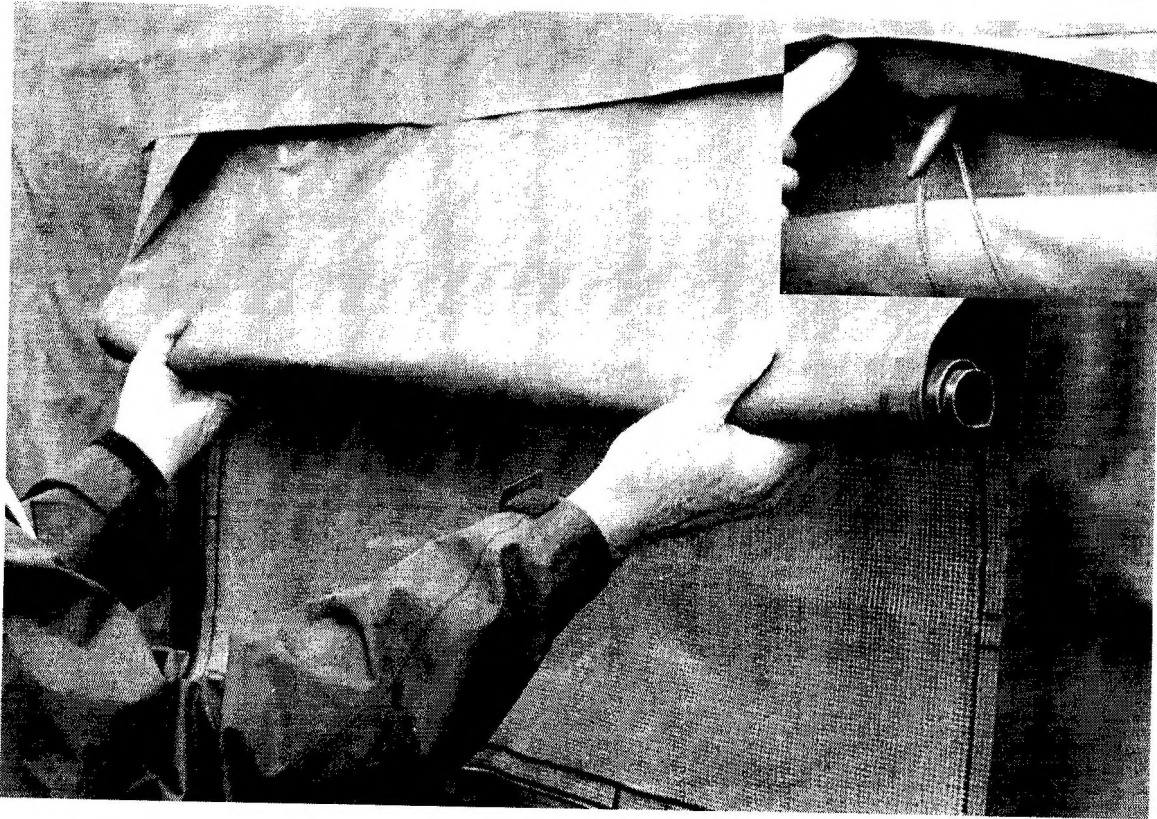
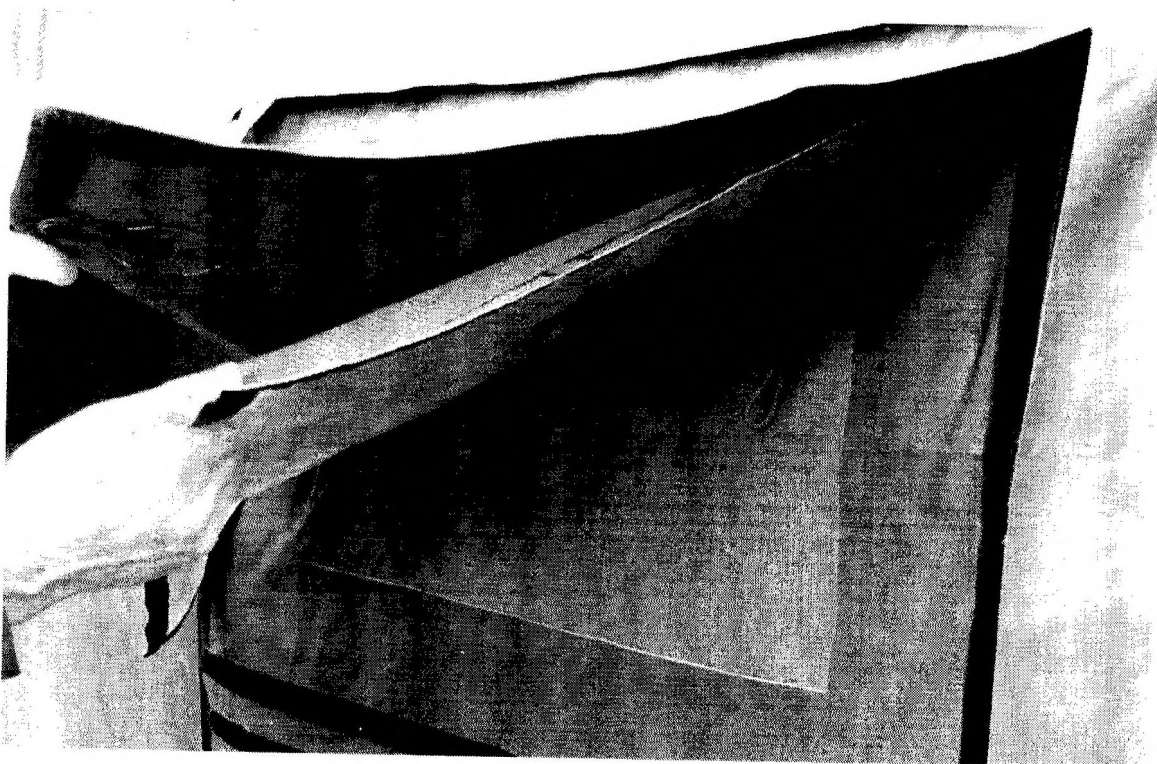

Figure 56: Window adjustment
Figure 57: Window adjustment for ventilation
60. Operation of the windows is simple, however to minimise the visual signature the canvas should be rolled up so that only the green side is visible and tied back in position using the toggles Fig 56 and Fig 57.